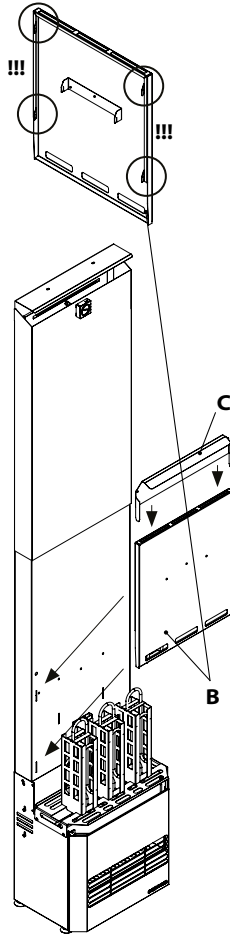

Figure 18
5. Install the heat shield (Fig. 18, B) with the coupling hooks.
6. Install the heat deflector (Fig. 18, C).